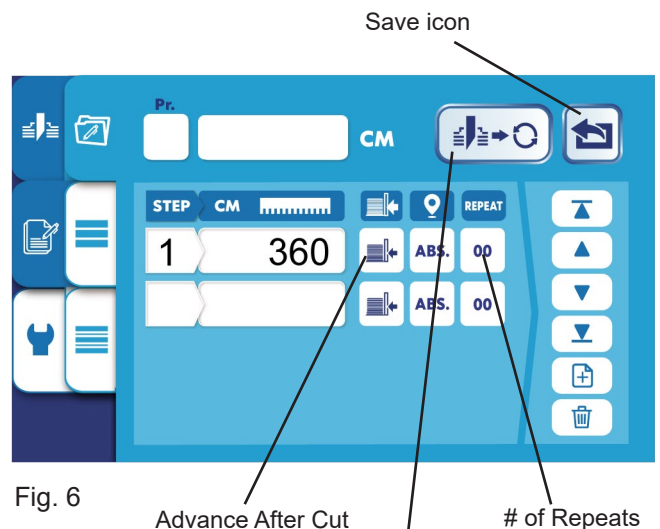

Fig. 6 Advance After Cut Repeat Cut # of Repeats
- If you would like the back gauge to slide the paper stack forward after making the cut, press the Advance icon (Fig. 6).
- To repeat a cut length, press the Repeat Cut icon  (Fig. 6).
7. When all cuts and settings are complete, press the Save icon (Fig. 6), and choose “Save.”